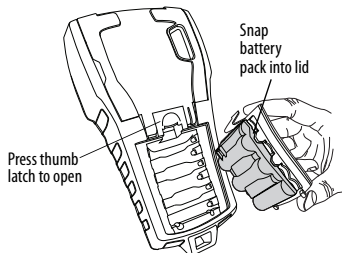

Figure 3
1. Press the thumb latch on the back of the printer to remove battery compartment lid. See Figure 3.
2. Snap the battery pack into the battery compartment lid. See Figure 3.